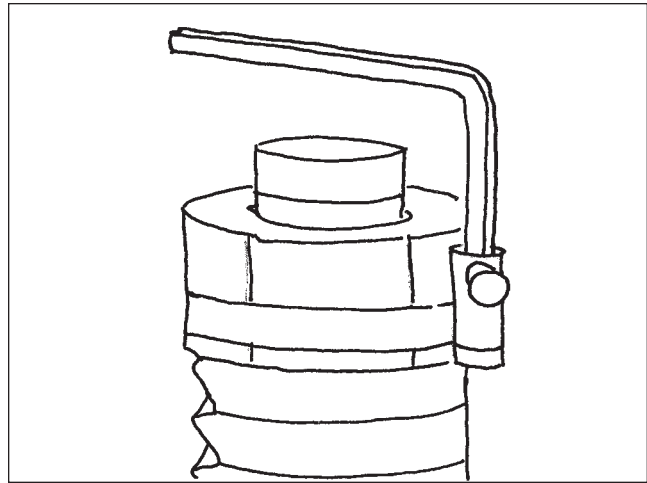

Figure 120
1. The M-Series models use a seal ring on the end of the power piston. A new seal is installed by placing the back-up O-ring in the piston groove and installing the square cut seal ring over it (**Figure 120**).